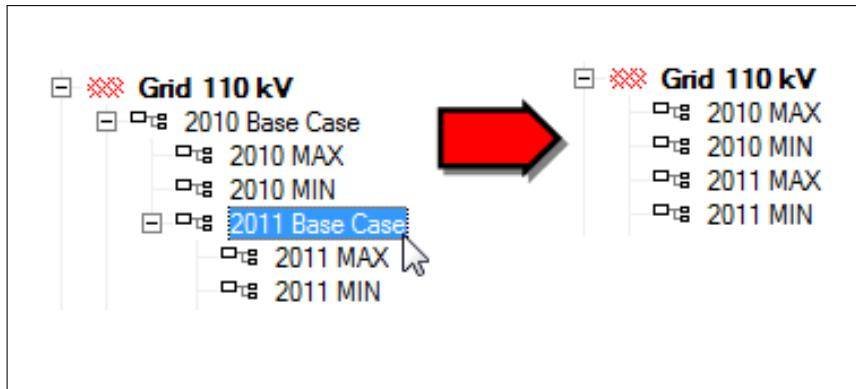

Figure 17.9.2: Reduce Revision performed for the 2011 Base Case
5. From the Data Manager, select a Study Case that uses System Stages (it should not be active), right-click and select *Reduce Revision*. This will copy both network data and operational data from the System Stages used by the study case into the recording Expansion Stage, and will delete the System Stages (to copy operational data to an Operation Scenario, an Operation Scenario must be active at this step). In this example, the “2010 Base Case” is reduced, followed by the “2011 Base Case” - this is because the complete System Stage branch, containing all System Stages between the selected stage and the target folder are reduced. Figure 17.9.2 shows the result of reducing the “2010 Base Case” and “2011 Base Case” to Variations.